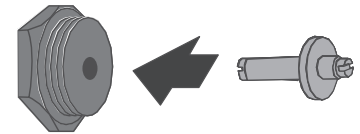

Figure 14
- 5** Reverse the retainer pin and snap it back into the regulator cap. (See Figure 14)